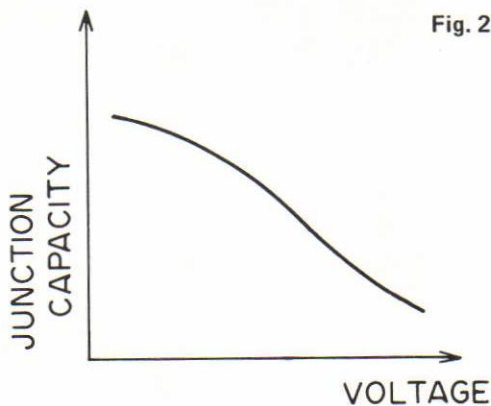

Fig. 2
By varying the reverse bias voltage, which is a characteristic of varactor diodes, the junction capacitance (C) is made to change. In other words, the voltage-dependency characteristics of the diodes are used to produce the desired effect. (See Fig. 2)